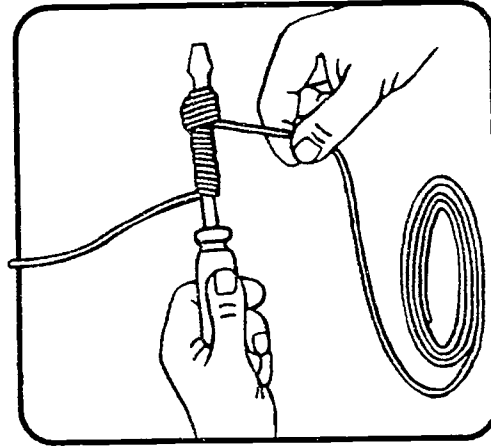
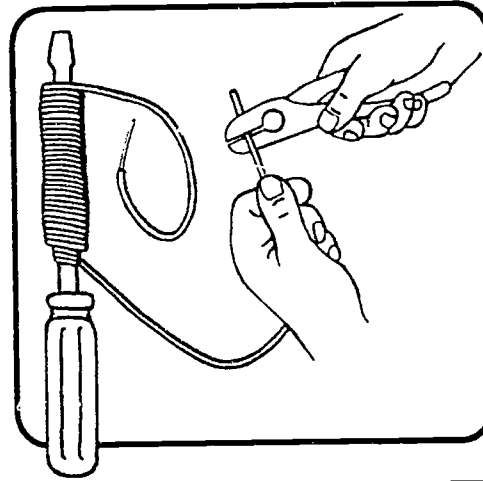
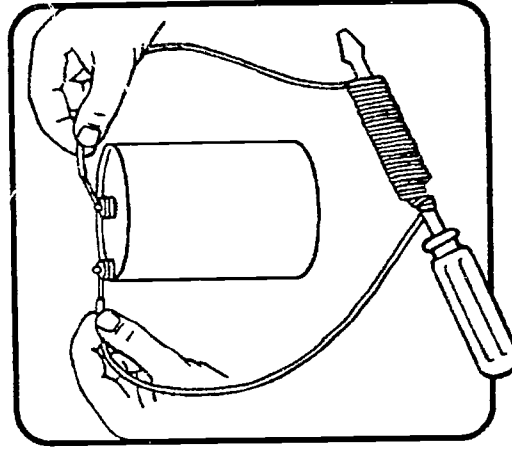

Fig. 15.1 Wrap wire
Fig. 15.2 Cut, leaving a leader
Fig. 15.3 Connect the wire to battery
- Leave a length of wire for a lead, then wrap the wire around the shank of the screwdriver in even coils (Figure 15.1). Use all the wire except for another short length for a lead. Remove the insulation from the ends of the leads (Figure 15.2). Briefly touch the ends to the terminals of the battery (Figure 15.3). This should magnetize the screwdriver.